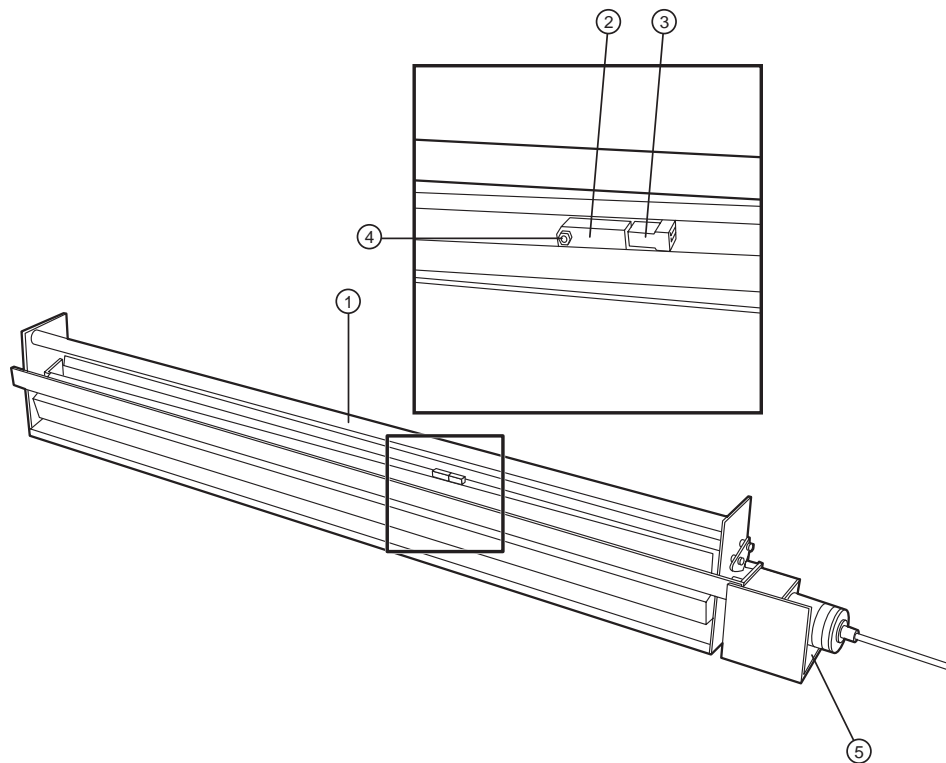

Figure 4-16 Take-up media present sensor.
2. Position the cutter assembly so that the cutter motor is to the right and the mounting plate (the plate that attaches the cutter assembly to the drum) is facing down. Refer to Figure 4-16.
- ①—Cutter assembly. ②—Take-up media present sensor.
③—Sensor connector. ④—1/4" hex nut. ⑤—Mounting plates.
3. Remove the connector from the media present sensor. Refer to Figure 4-16.
4. Using a 1/4" open end wrench, remove the hex nut securing the media present sensor. Refer to Figure 4-16.